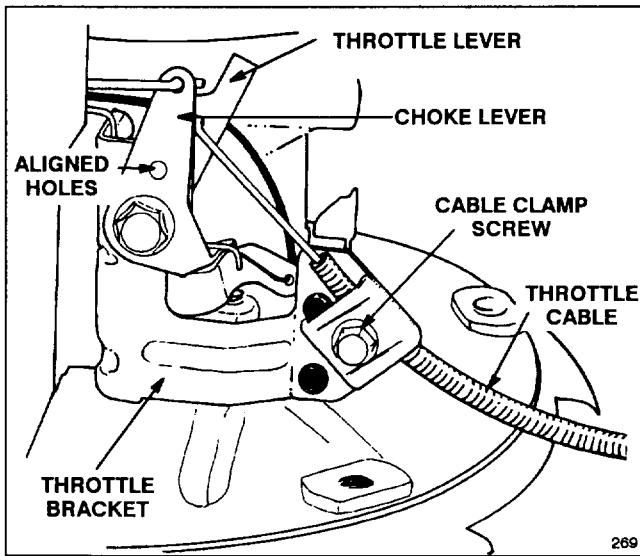

Figure 20
3. Loosen cable clamp screw until throttle cable slides (Fig. 20).
4. Check to see if holes in throttle bracket and choke lever are aligned (Fig. 20). If not, follow adjustment procedure in step 5.
5. **ADJUSTMENT**—A small diameter pin may be inserted into aligned holes to hold adjustment. Push throttle cable until throttle lever contacts choke lever (Fig. 20). Tighten cable clamp screw. Remove pin if used.